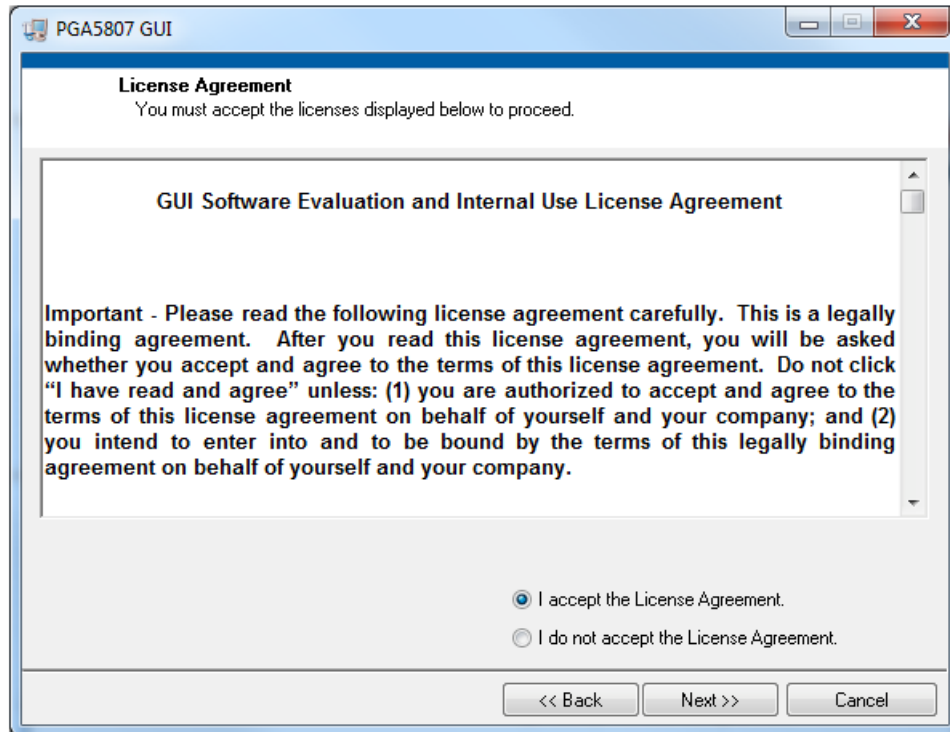

Figure 13. PGA5807 GUI Install (c)
- Read the License Agreement from Texas Instruments and select the *I accept the License Agreement* button and then press the *Next* button as shown in Figure 13.